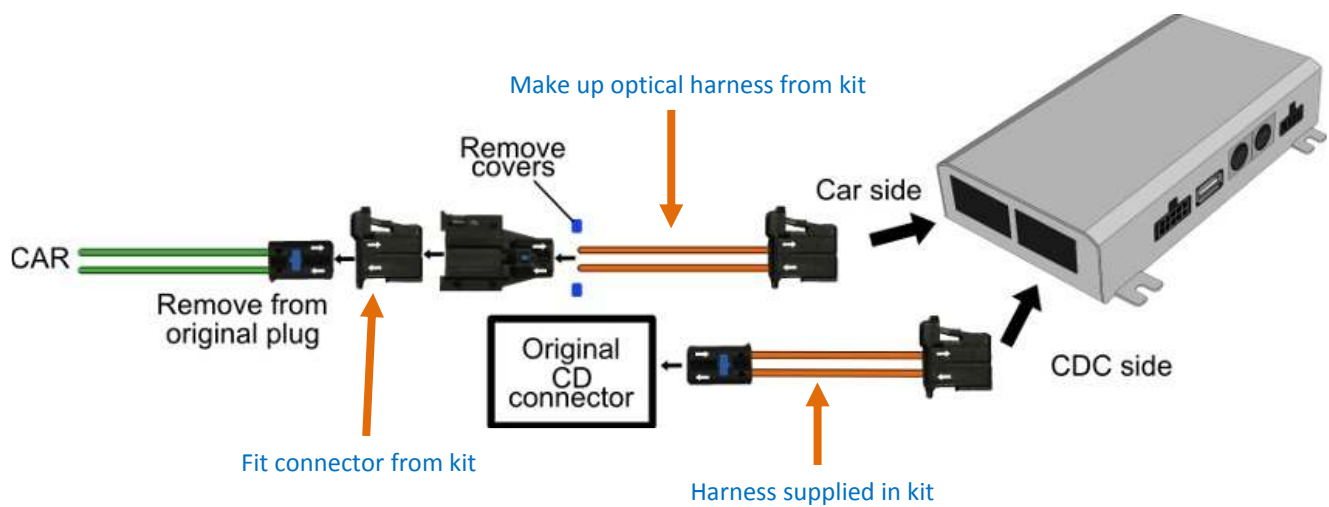

Fig 5
5. Check that the connections to the Gateway 500 are correct as shown in Fig 5